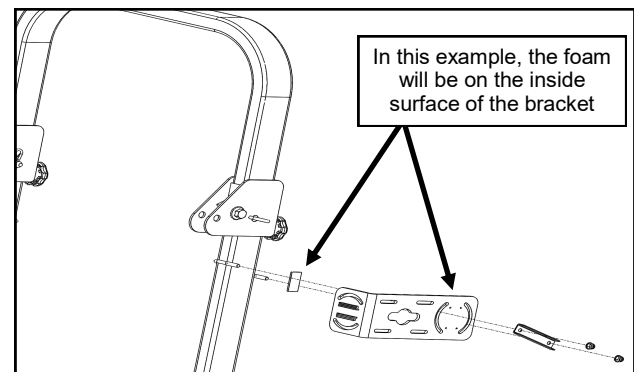

Fig. 4a (Example of bracket assembly)
4. See figures 4a, 4b, and 4c. Attach the ROPS bracket to the ROPS with the bent flange facing rearward of the vehicle, using one U-bolt, one U-bolt clamp, and 2 locknuts. The U-bolt clamp should sit flat on the outside face of the ROPS bracket. The U-bolt should be rotated in the curved slots in the ROPS bracket so that the legs of the U-bolt contact each side of the ROPS tube. Leave locknuts loose, but snug. Repeat for the second ROPS bracket.